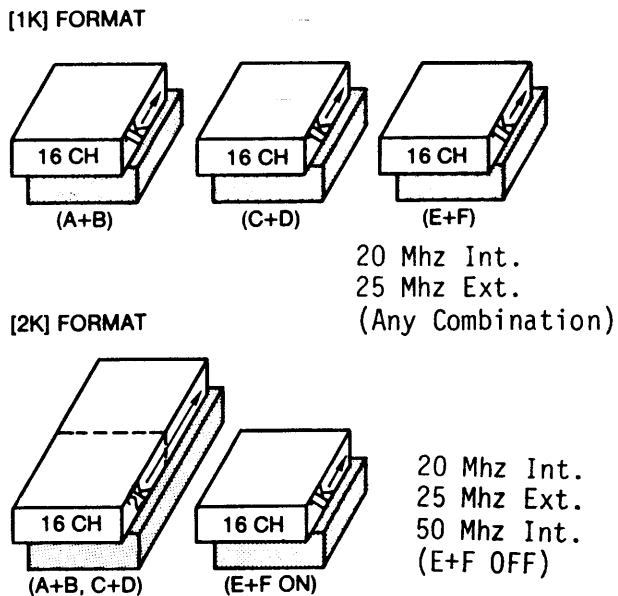

FIGURE 5-9. MEMORY BLOCK CONFIGURATIONS
5.3.1.3 Memory Blocks ③. The DAB's represent the memory blocks of the 64300. These DAB's can be organized for 1K or 2K Formats (See Figure 5-9). In the 1K Format, the user may select 48 channels by turning ON all Pod groups (See Figure 5-10A). In the 2K Format (where Pods A + B and C + D are combined), the user may leave Pod groups E + F ON or OFF (See Figure 5-10B). In this case, an asynchronous sampling rate of 20 ns (50 MHz) can be achieved with the Internal Clock.